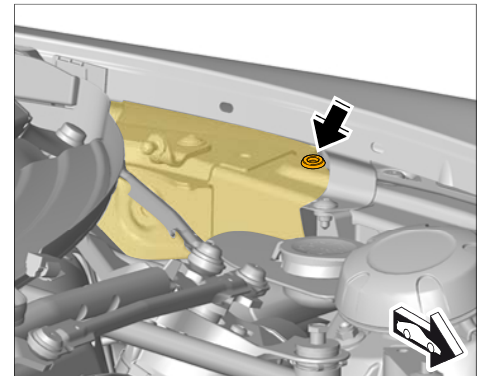

Figure 40
- 11.3 Close off the opening on the longitudinal member for the wheel housing upper section using a stopper, Part No. **999.703.421.40** , immediately after pulling out the spray pipe ⇒ *Figure 40 -arrow-*.